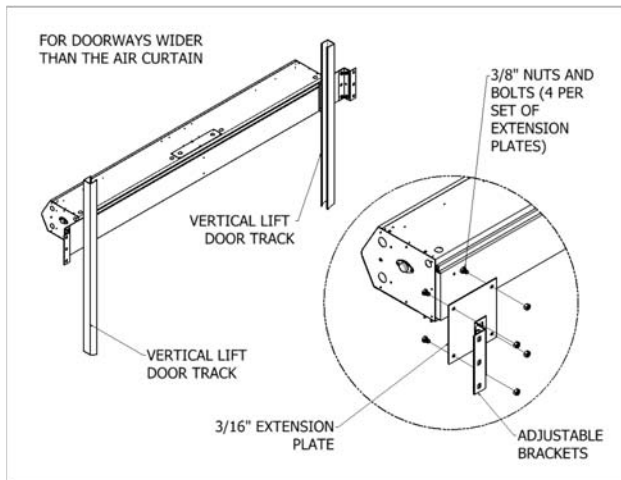

FIG. 5 (LPV Shown)
1. Side Extension Plates: For doorways wider than the air curtain, use combination of Side Extension Plates and Adjustable Mounting Brackets. (FIG. 5)